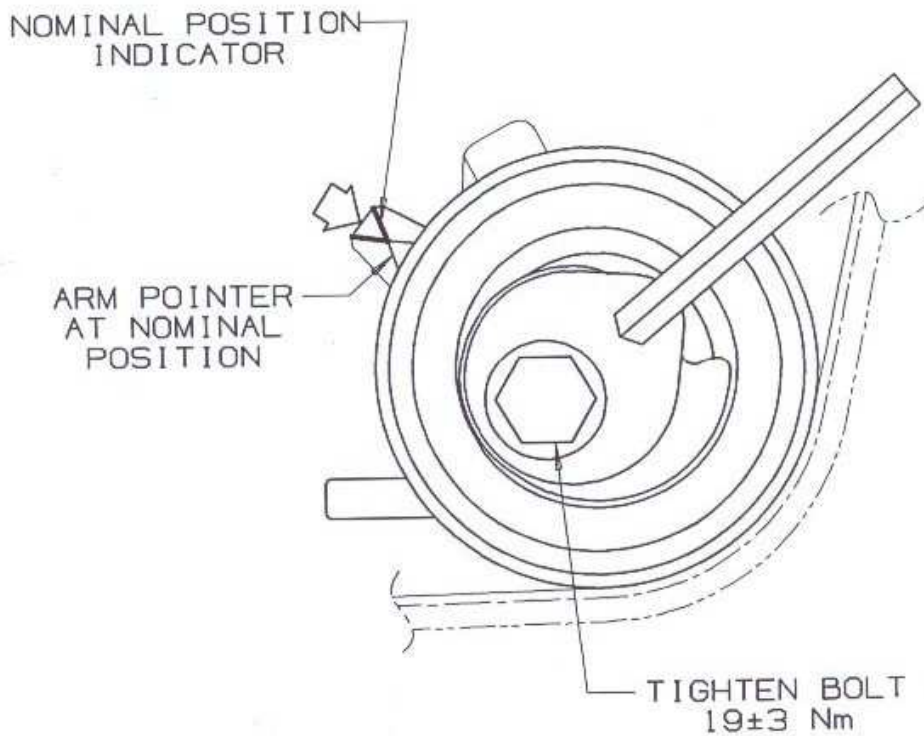

Figure 4: Proper Installation of tensioner at room temperature (20°C)
8. Continue rotating the Installation Shaft Washer until the Arm Pointer is aligned with the Nominal Position Indicator on the base plate, then lock the tensioner in this position by tightening the Mounting Bolt with **19±3 Nm** of torque (See Figure 4).